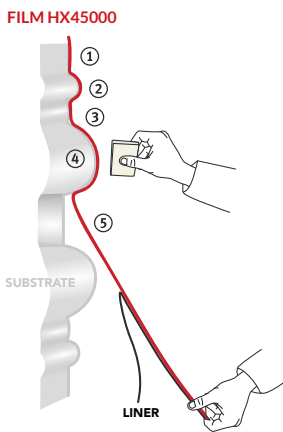

Figure 07
- Gradually remove the liner while pulling it downward. (FIG. 07)
- Start by applying the hollow ①, then the peak ② and finally the hollow ③.
- Continue onto the next undulation ④, then keep going ⑤ until the application is completed.